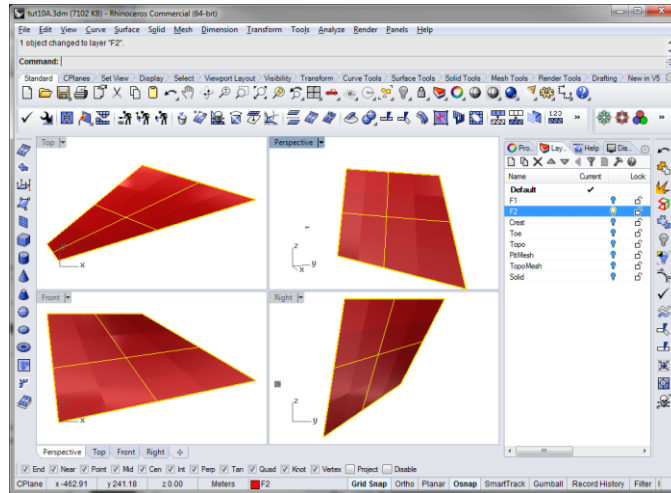

Figure 161: Lofted surface placed into layer F2.
5. Select **Straight Section** for the **Style** and **Do not simplify** for **Cross-section curve options**, then click **OK**. **Edit|Select Objects|Curves**, then **<DELETE>** the two lines. Select the **Surface**, **ChangeLayer** and place the selected surface in layer **F2** (Figure 161).